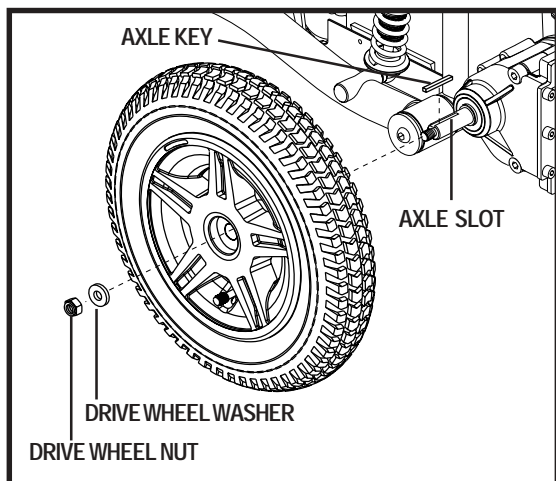

Figure 20. Jazzy 614 Series Drive Wheel
4. Remove the drive wheel nut and washer from the axle. See figure 20.